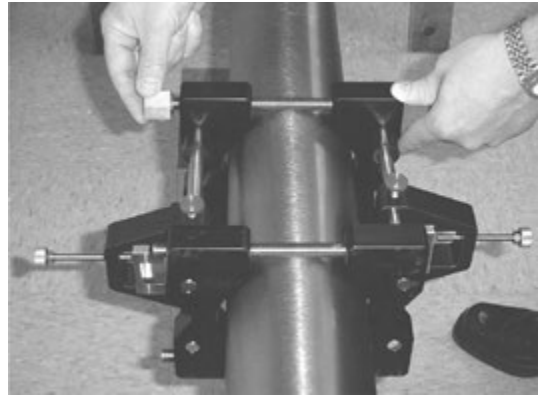

Figure 25: Installing nuts onto the fixture
3. Install the four nuts onto the threaded rods with the convex side of the nut facing the fixture. Hand tighten the nuts on each V block evenly, as shown in Figure 25 on the next page. Do not use a cross tightening pattern on the four installation nuts.